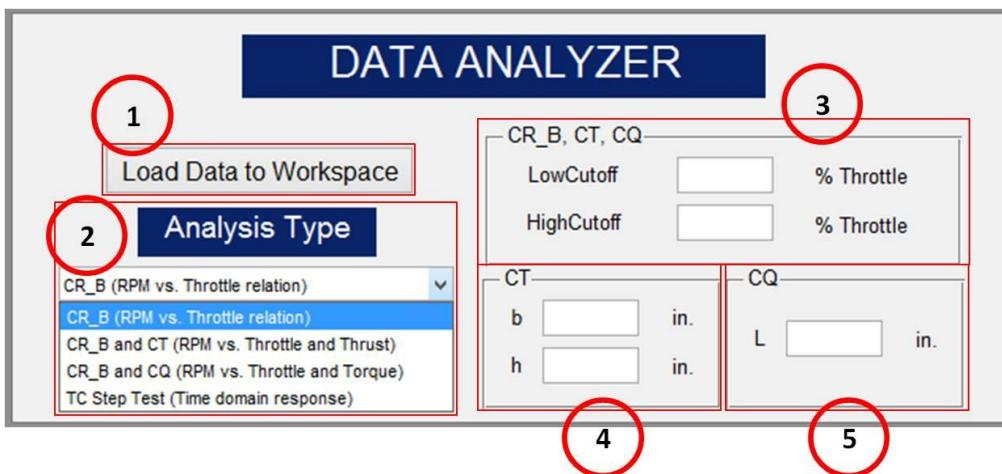

Figure 1. Data Analysis Program
The simulation requires us to estimate several quadcopter performance parameters that are acquired through experimental testing of the motors of the quadcopter vehicle. This GUI was made to help analyze this motor test data. The parameters this GUI is able to calculate are called: CR and b (**Throttle to RPM conversion**), CT (**Thrust coefficient**), CQ (**Torque coefficient**), and TC (**motor time constant**). By loading test data into the workspace the GUI can automatically calculate parameters and plot the data. The Data Analysis GUI can be seen below in Figure 1.
- ii. The **LowCutoff** and **HighCutoff** for throttle percentage can also be included in this program. These values are entered as shown on figure 1 above. For example, if a test is run between throttle limits of 0 and 60%, you may still only want the program to analyze the data between values of 20 and 40% throttle. This is an important concept since having the fit be accurate around the anticipated normal operating range is often more important than having the fit be based on the full possible range of RPM values. Therefore, we recommend some iteration involving finding the approximate throttle required for hover and then performing additional testing and parameter fits around this range (+/- 5-10% throttle for example). This will produce more accurate simulation results, and presumably better control design, at near hover conditions, which are usually the conditions of primary interest. If these values aren't entered, the program will automatically find the lowest (non-zero) and highest throttle values from the test data and use those instead.